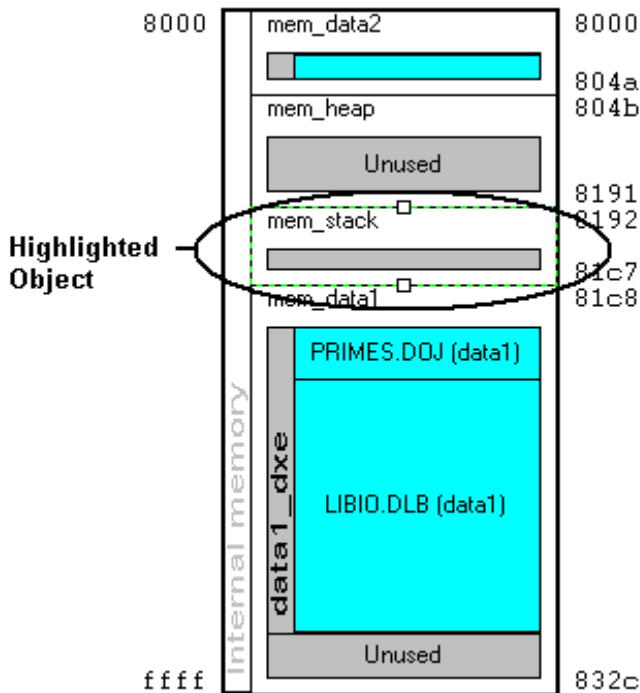

Figure 4-21. A Highlighted Memory Segment in the Memory Map
-  When an object is selected in the memory map, it is highlighted as shown in Figure 4-21 on page 4-28. If you move the mouse pointer over an object in the graphical memory map, a yellow tooltip displays the information about the object (such as name, address, and size).